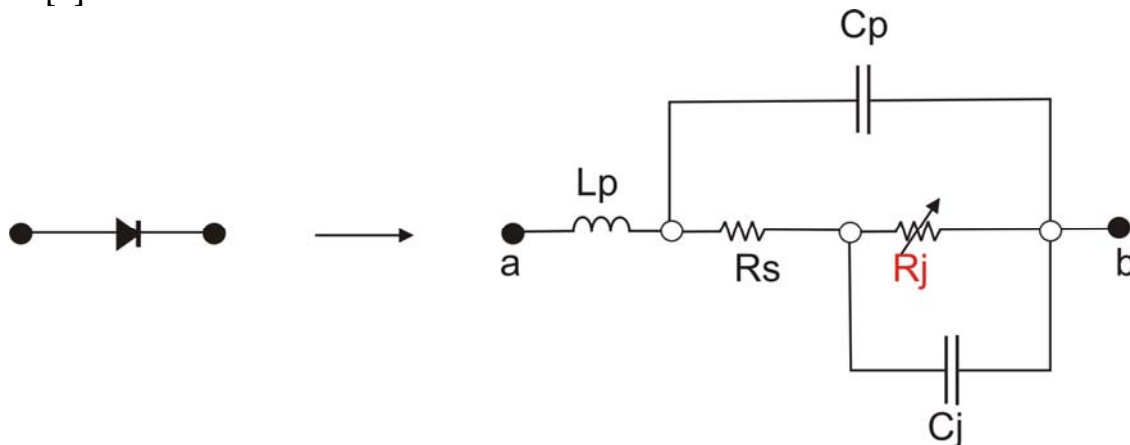

Fig. 1. Equivalent small-signal model of the diode including package parasitics.
Fig 1 shows the equivalent circuit for the Agilent HSMS-285x zero bias Schottky diode [1]:
- Determine and plot (MATLAB) the input impedance of the diode (input impedance between terminals  $a$  and  $b$  in Fig. 1) at 920 MHz including both resistance and reactance. The input impedance is plotted as a function of the bias current  $I_B$  in the range 0-1000  $\mu\text{A}$ .